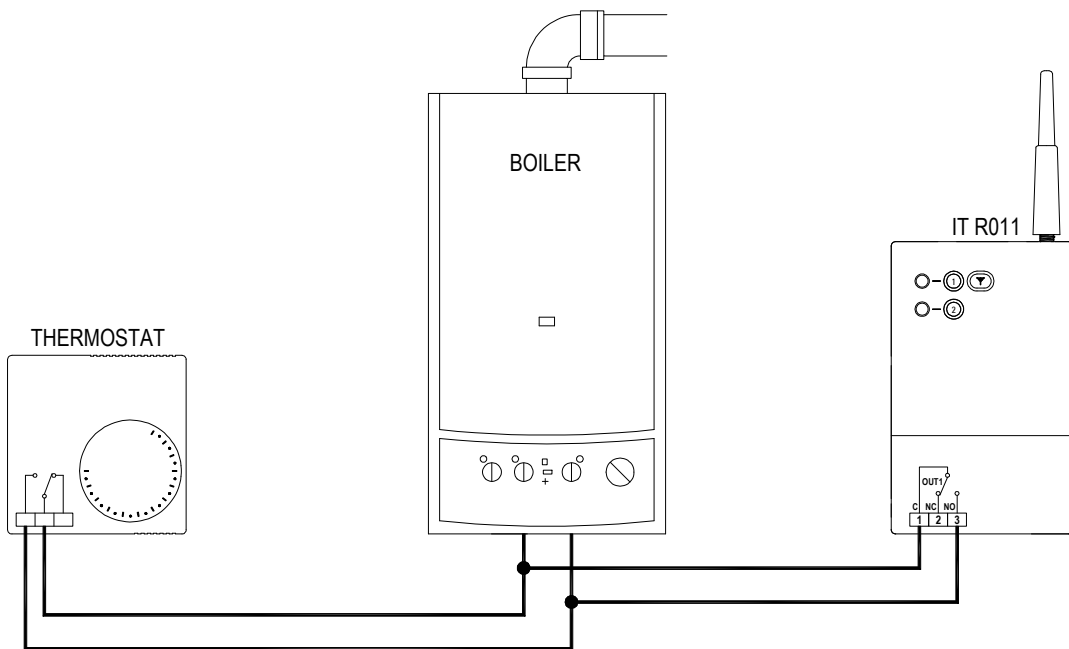

Fig. 10: Example of the telephone interface connected in parallel with a thermostat.
**Connection in parallel** (Fig. 10): OUT1 must be in the OFF status in order to regulate temperature via the thermostat. To disable the regulation function either turn off the thermostat or turn the setpoint adjustment dial to minimum. To turn it on remotely, send the "REGULATE" command to the interface, which will regulate the temperature to the desired value. When you want to go back to regulating the temperature with the thermostat, you must turn it on or raise the setpoint and switch OUT1 of the interface to OFF. If desired, the antifrost function can be obtained by means of the thermostat, for example by turning the setpoint adjustment dial to minimum. Alternatively you can enable it through the telephone interface by giving the ANTIFROST command; in this case it is necessary to install the temperature sensor in the room whose temperature you wish to regulate.